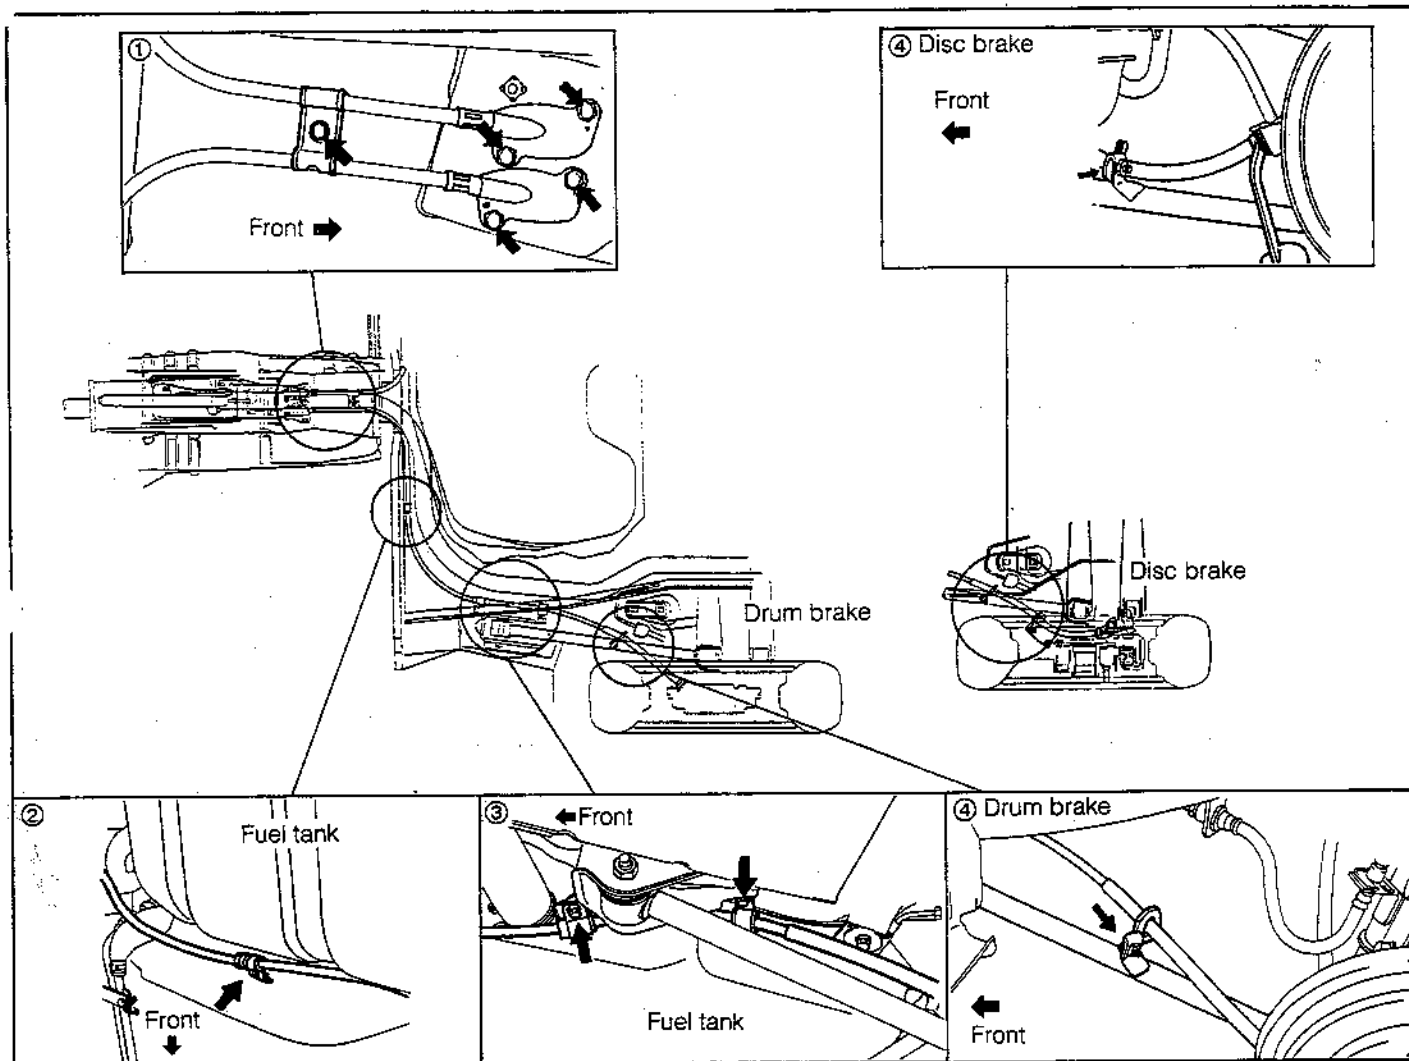

Fig. 8-186
2. Install the clamp-related parts provided under the body. (See Fig. 8-186.)